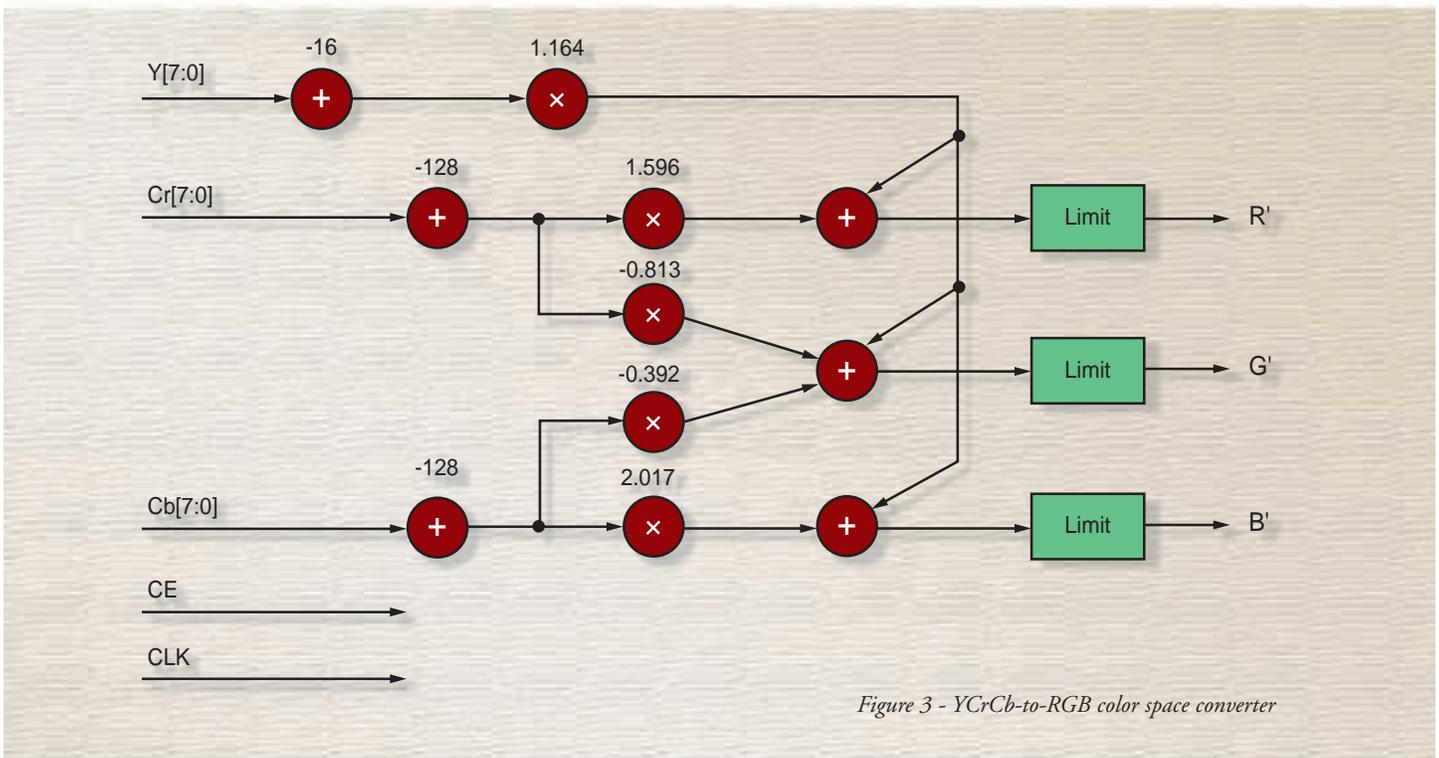

Figure 3 - YCrCb-to-RGB color space converter
Realizing these circuits in hardware is a relatively simple task, once the coefficients to map from one plane to another are known. One common format conversion is RGB to YCbCr (and conversely YCbCr to RGB). See Figure 3. It has been found that between 60% and 70% of the luminance information (Y) a human eye can detect comes from the green color. The red and